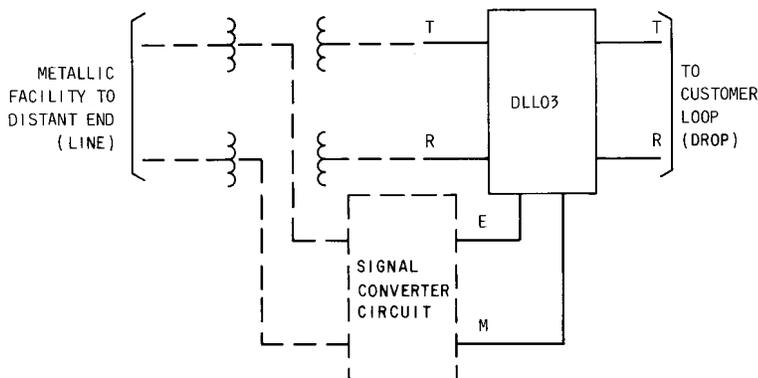

Fig. 6-25—DLL03 (A) Option) Shown in Typical Application
**6.45 Description:** The DLL03 (Fig. 6-25 and 6-26) is a loop to E & M lead signaling converter circuit used at the customer (loop) end of a loop start circuit. It is normally associated with either out-of-band carrier signaling systems (0, 0N, N1, or T1 carrier) or CX, DX, or SX signaling on metallic facilities. It can also be associated with an SF type signaling unit. Primary applications are off premises extensions, WATS Lines, one-way PBX-CO trunks, and some FX circuits. At the distant CO (switching) end of the circuit a DLL01 (see 6.41) is normally used to convert back to loop switching.